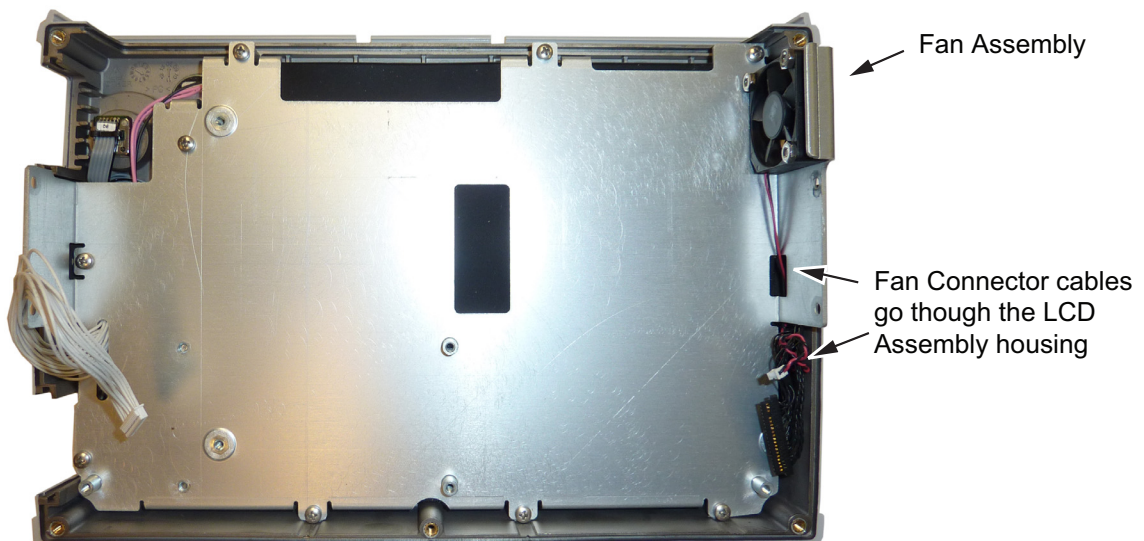

Figure 7-12. Front Panel Keypad Bezel
3. Remove the 3 screws and nuts holding the Fan Assembly to the LCD Assembly housing. Refer to (Figure 7-12).